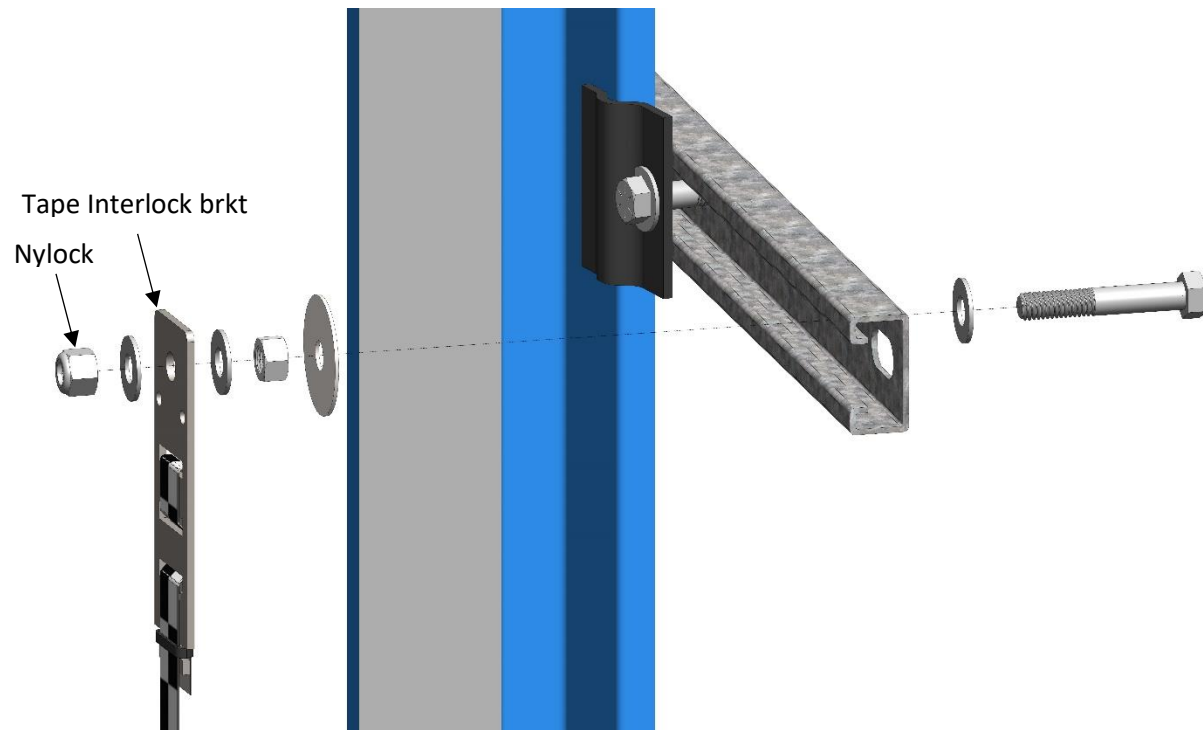

Figure 10: Upper tape mounting assembly
| Figure 10: Upper tape mounting assembly | 12 |
- Loosely assemble the Upper Tape Mounting Assembly in the order shown in figure 10.